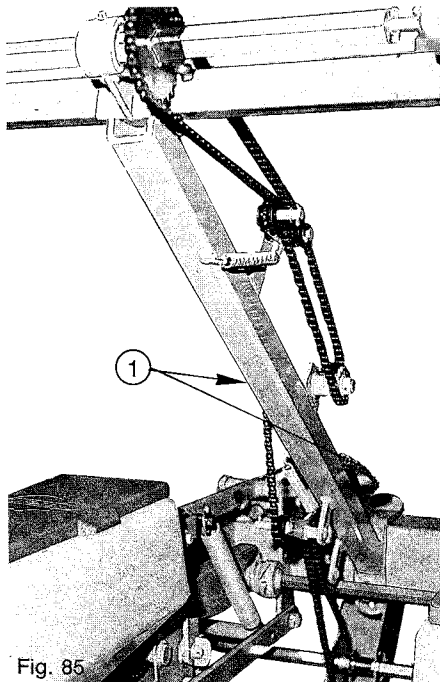

Fig. 85
- Fig. 85 for the drive system.
A series of interchangeable sprockets 1 (fig. 85) allow the metering device to be adjusted to the number of rotations needed for the product to be distributed (as for the insecticide system on the preceding page.)